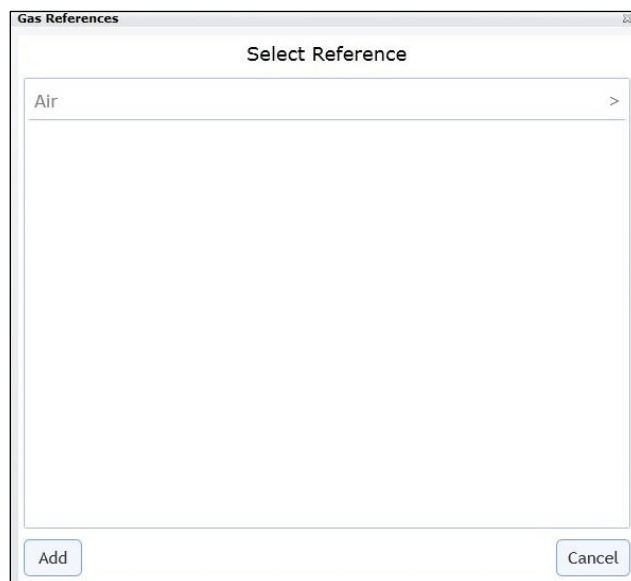
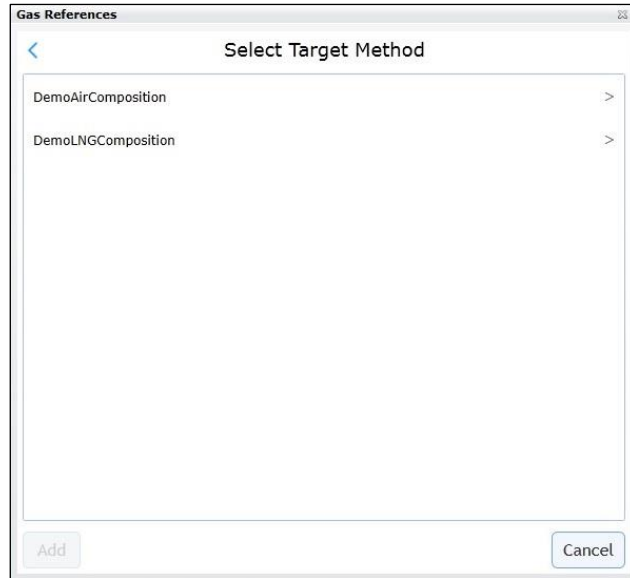

Figure 94. Select gas reference dialog
Figure 96. Select gas reference dialog
10. Click an existing gas cylinder from the list to edit its composition (Figure 94).
12. Adding a New Calibration Gas. When a new method is added to a channel, a compatible Reference gas must be created for that method. Pressing the **Add** button from the Gas References dialog (Figure 94) displays the Select Target Method dialog (Figure 96), which allows the user to create a reference gas and enter its composition from the calibration gas cylinder.